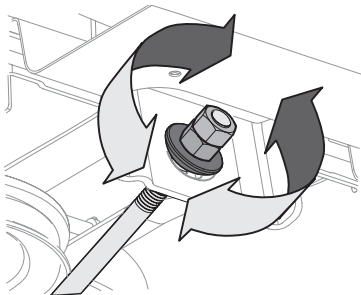

Figure 25
4. To **raise** the front of the deck, loosen the outer nut then tighten (thread inward) the inner nut against the front hanger bracket (Figure 25 on page 26). When proper adjustment is achieved, re-tighten the outer nut to 25-30 ft-lbs (34-41 N-m).
5. To **lower** the front of the deck, loosen the outer nut then loosen (thread outward) the inner nut, away from the front hanger bracket (Figure 25). When proper adjustment is achieved, re-tighten the outer nut.